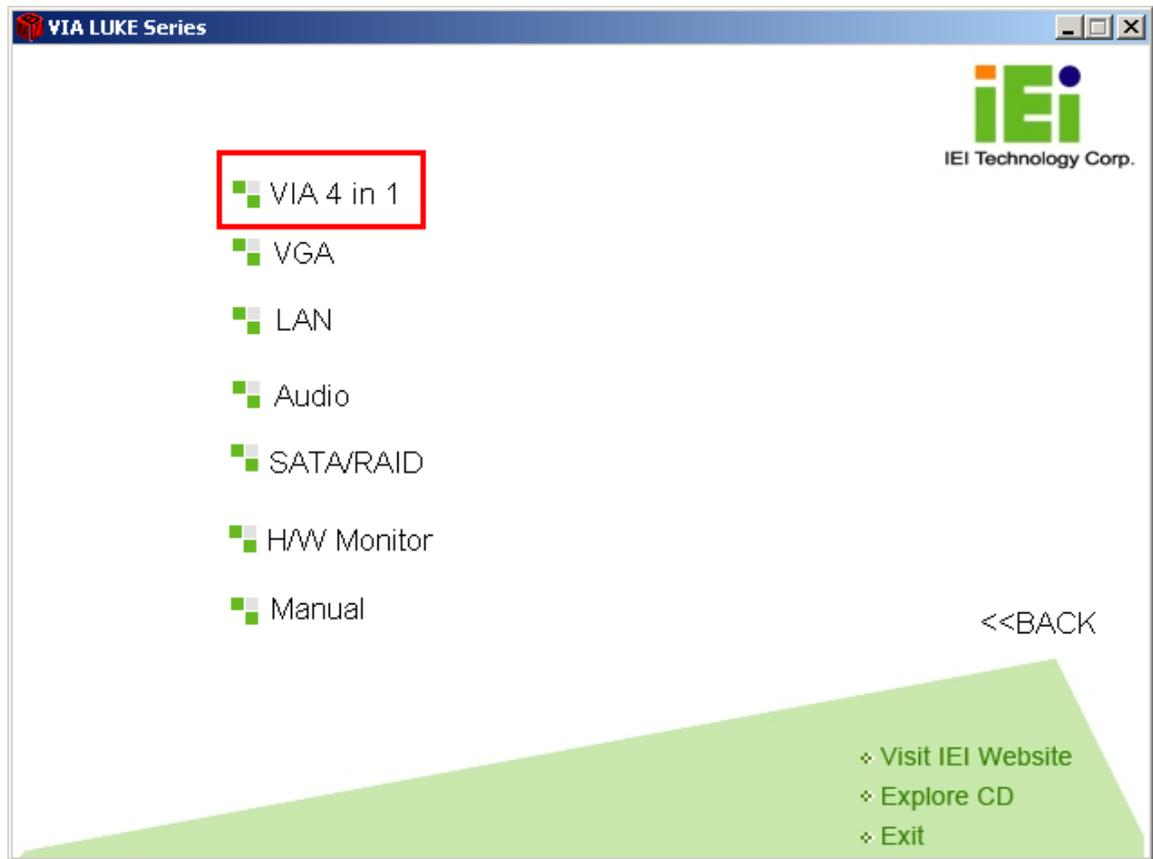

Figure 6-2: Setup Utility Icon
Step 3: Select the “VIA 4 in 1” option shown in **Figure 6-2**.